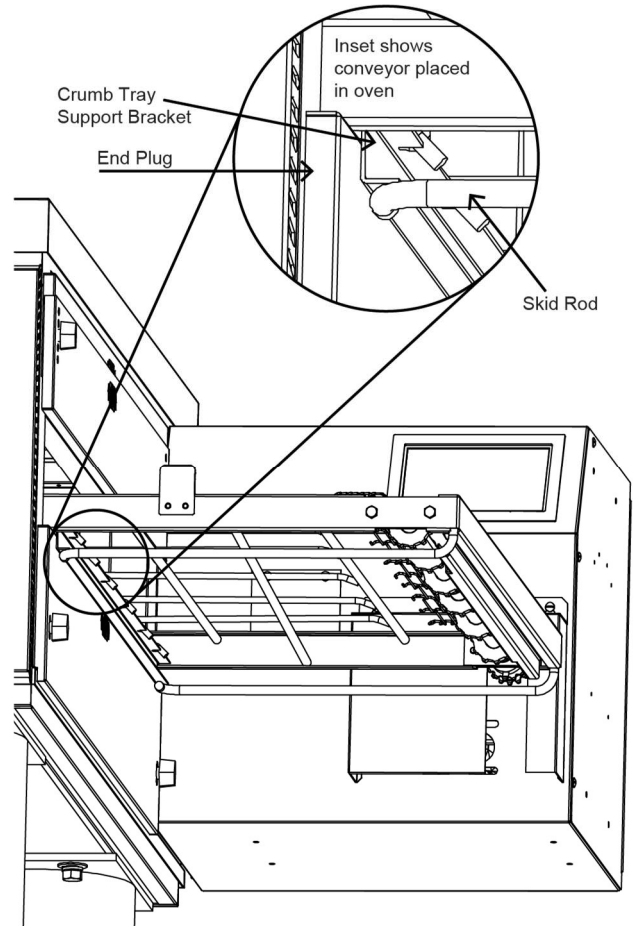

Figure 22. Secure Conveyor Frame
2. Continue moving the conveyor into the oven until the frame protrudes equally from each end of the oven. Check that the crumb tray supports located on the underside of the conveyor frame rest firmly against the lower end plugs, as shown in Figure 22.